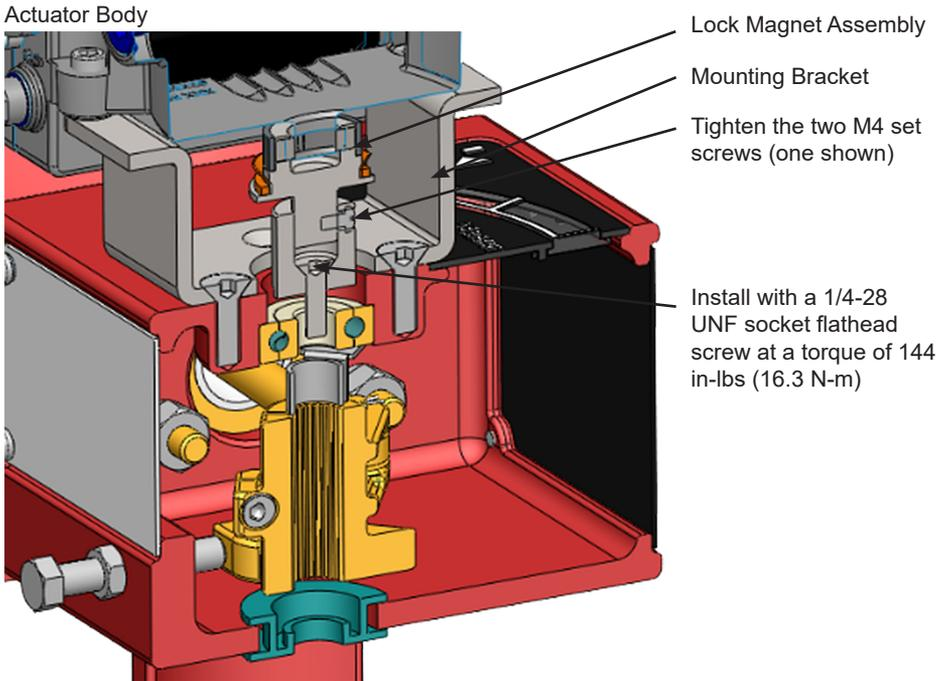

Figure 13 - Extension Shaft to the Valve Position Take-off Shaft
2. Bolt the extension shaft to the valve position take-off shaft (Figure 13).